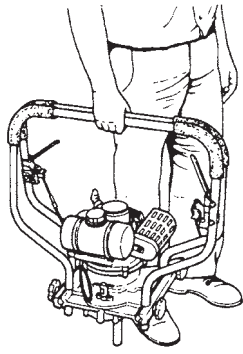

Fig. 13
- 1) By folding the handle bars upward, they can be used as a carrying handle. (Fig. 13)